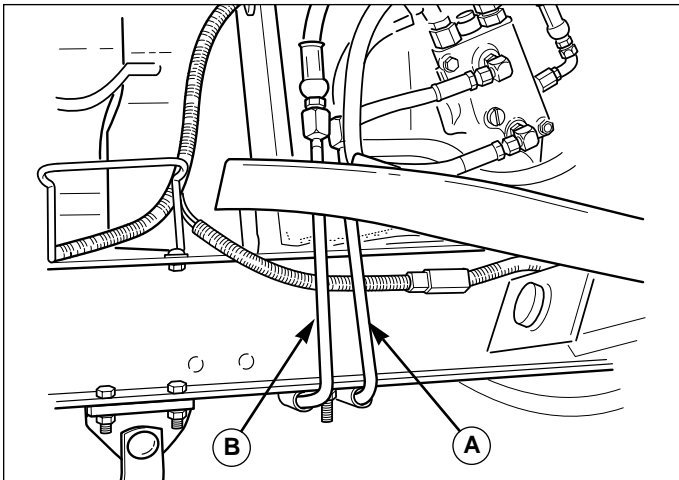

Figure 20. Cross-Over Tubes
3. Install the cross-over tubes (A, B, Figure 20) under the tractor. Route the tubes through the frame as shown in Figures 20 and 22. The tube with the beaded end (A, Figure 20) goes in back, the tube with the hex fitting (B) goes in front.